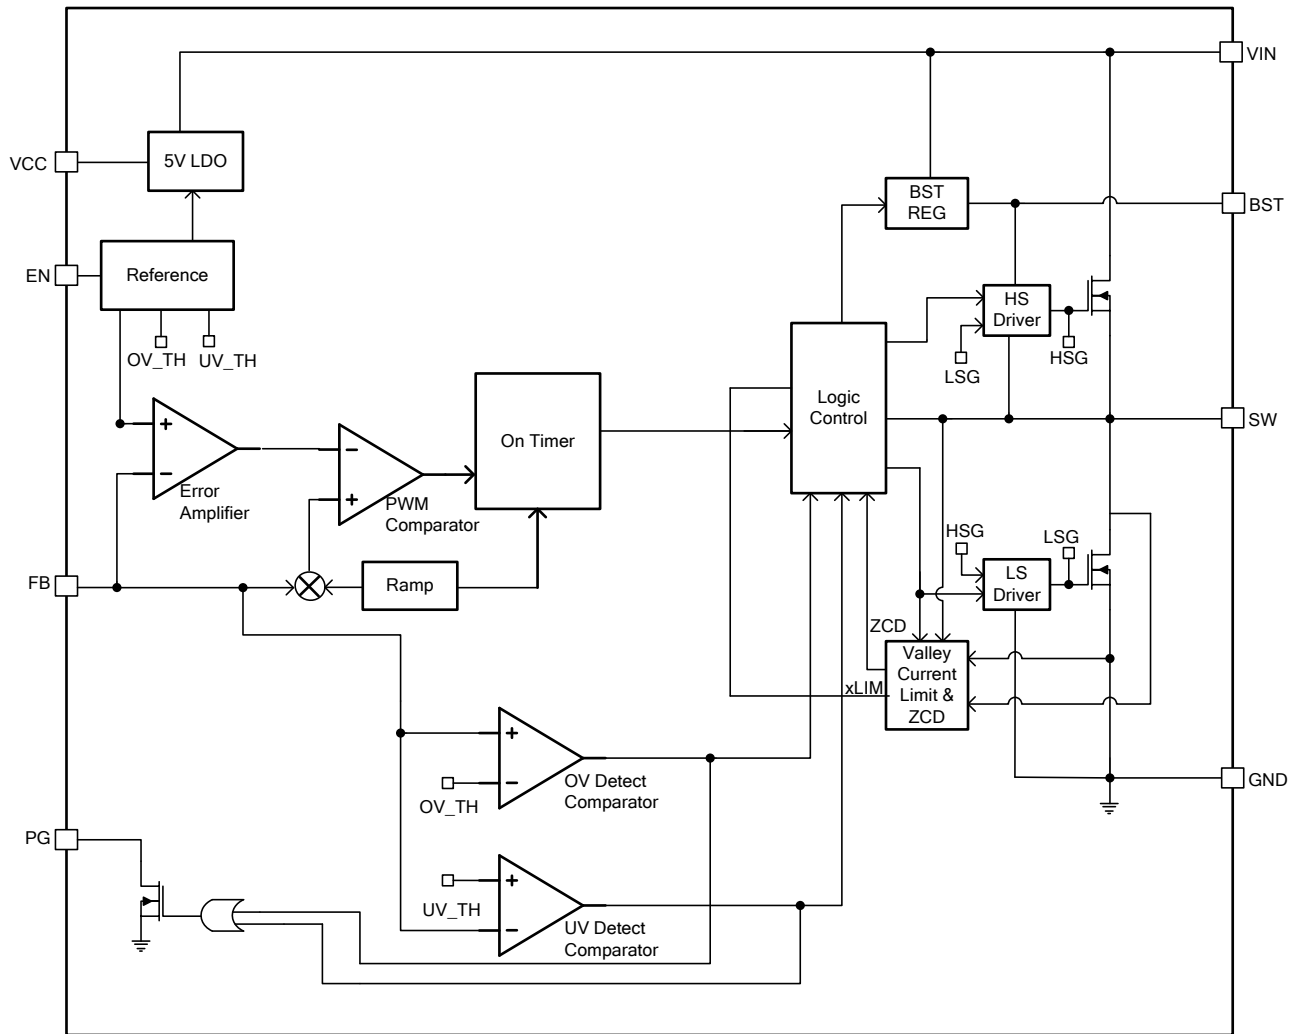

Figure 1: Functional Block Diagram
The MP2319 has a valley limit control. During the LS-FET on state, the inductor current is monitored. When the sensed inductor current reaches the valley current limit, the LS limit comparator (shown in Figure 1) turns over, and the MP2319 enters over-current protection (OCP) mode. The HS-FET waits until the inductor current falls below the valley current limit before turning on again. Meanwhile, the output voltage drops until V_{FB} is below the under-voltage (UV) threshold, typically 50% below the reference. Once UV is triggered, the MP2319 enters hiccup mode to restart the part periodically.